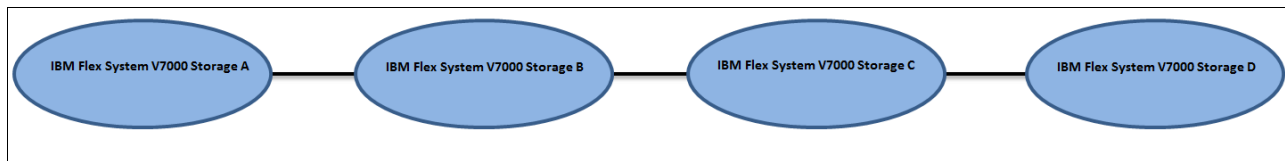

Figure 9-56 Daisy-chain topology for IBM Flex System V7000 Storage Node
- ▶ Daisy-chain topology (Figure 9-56):